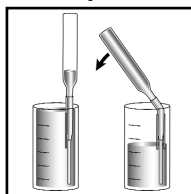

Figure 3
5. Place the VACUette between the vertical tip guides on the inside of the dilutor snapper cup. Snap the ampoule tip. The ampoule will fill leaving a bubble to facilitate mixing (fig. 3).